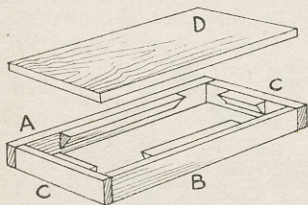

Fig. 1—How the base is built up
of this case are cut square at the ends and glued together as Fig. 1 shows. Note that piece A will form the front as it runs through from end to end and thus shows no end grain of the pieces C.
The floor (D) is next glued on and one or two long screws run in. The base is then glued underneath, with angle fillets fixed in the four angles as shown in Fig. 1. A plain piece I is cut, the two end top edges being rounded off with glasspaper and then glued on centrally to piece F.